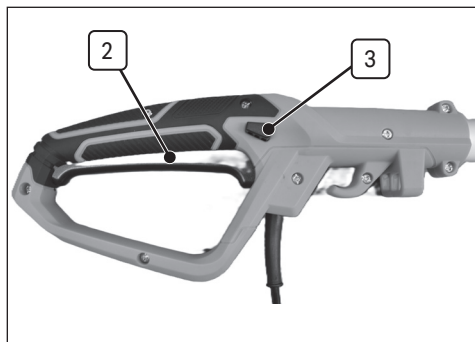

Fig. 5
2. Then place your left-hand hold on the soft grip front handle (8) and hold the rear handle (1) with your right hand.
7.3 ON/OFF Switch (Fig.5)